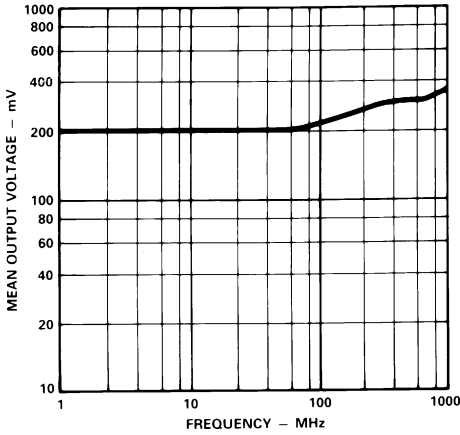

Figure 1. Mean-Square Output vs. Frequency
**Figure 1.** Figure 1 is a plot of the mean-square output versus frequency for the test circuit of Figure 5. Note that the rising response is due to package resonances.